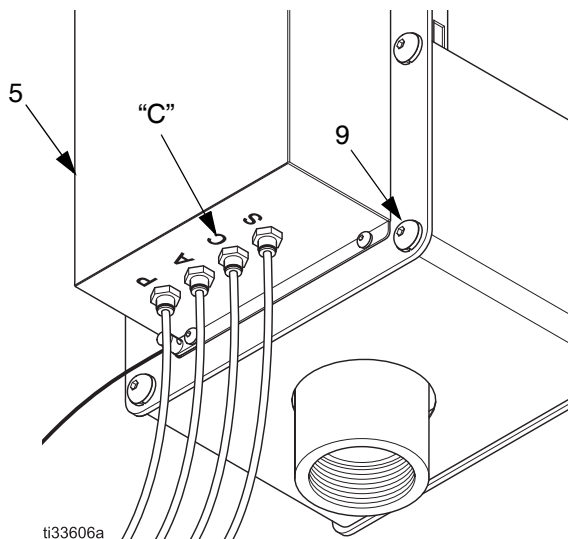
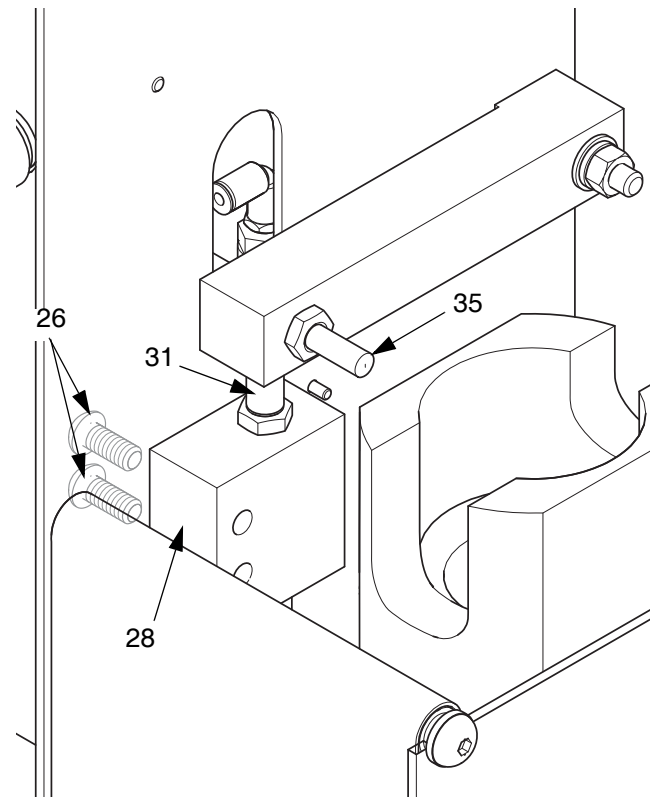

FIG. 9: Gun Flush Box Cover and Air Fittings
FIG. 10: Setting the Trigger Height
2. Remove the four screws (9) that hold cover (5) to the Gun Flush Box. See FIG. 9.
3. Force the cylinder triggers on by connecting air to port C. Turn on the air to extend cylinder buttons (31) and (35).
4. Loosen both screws (26) on the side of the box that holds the cylinder block (28). See FIG. 10.
5. Raise cylinder block (28) until pin (35) opens the trigger fully. See FIG. 10.
6. Tighten both screws (26) at the desired location for cylinder block (28).